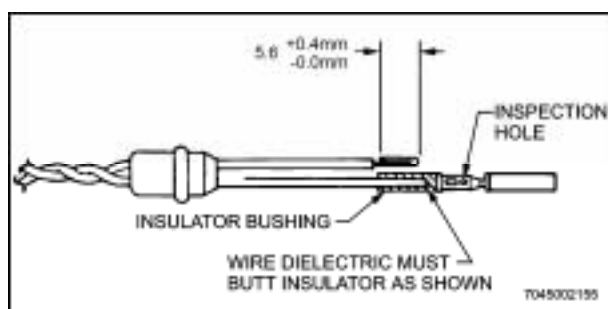

Figure 12-49 Assembly Before Crimping
d. Place the insulator and the contact onto the shorter stripped wire. The wire which is now the centre conductor must be visible through the contact inspection hole (See Figure 12-49.)
j. Push the sealing boot forward into the grommet of the connector until the O-ring riser of the boot has effected its snap-in seal. (See Figure 12-49). The installation of the shielded contact is complete.